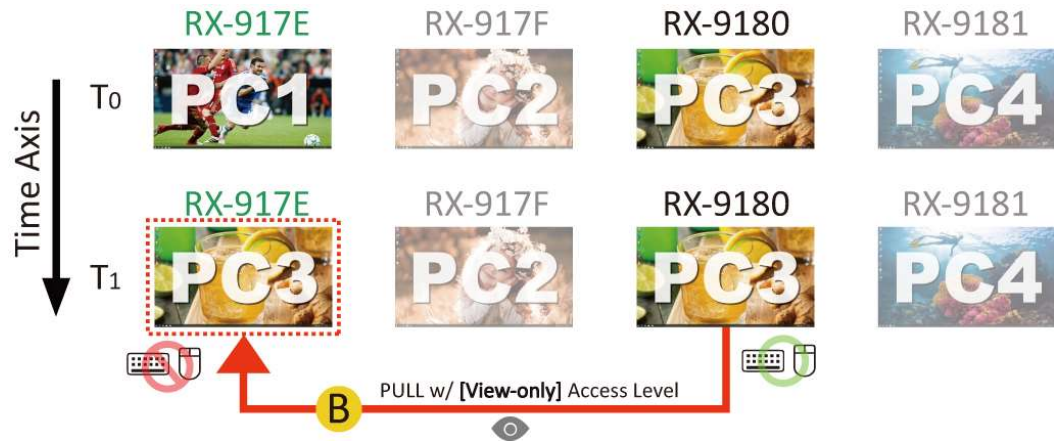

Figure 8-10 TX Resource Pull Operation with [View-only] Access Level
- (B) Double-click the icon  in the row of the RX unit **RX-9180**, representing a PULL of the resource from the **TX-917A** that the **RX-9180** is connecting to, to the RX unit **RX-917E**, as illustrated in Figure 8-10.